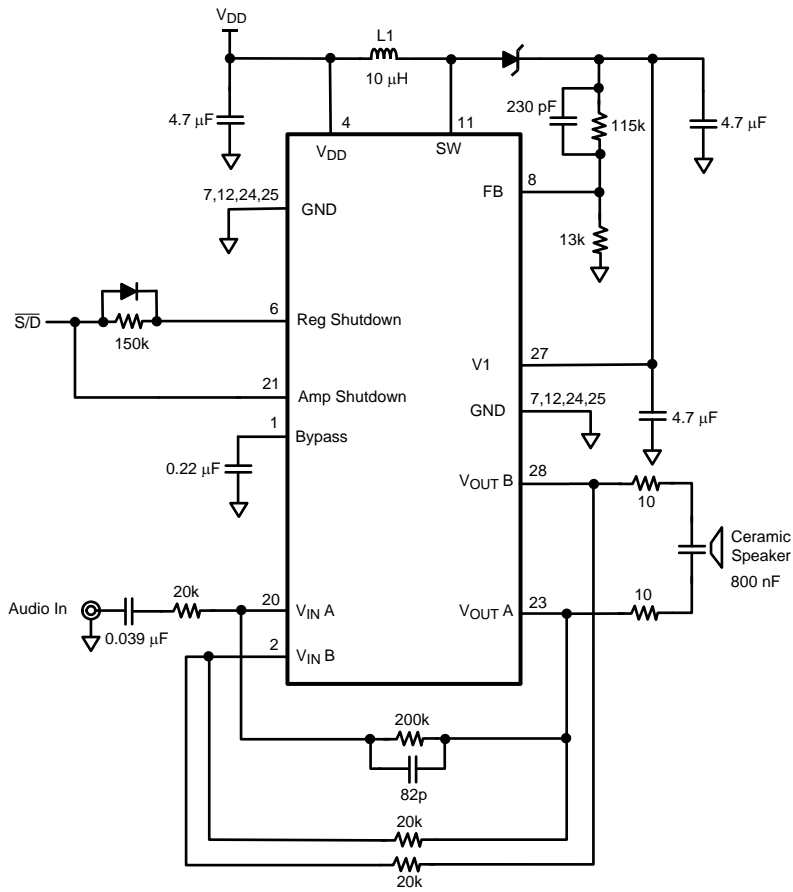

Figure 2. Typical Audio Amplifier Application Circuit
- (1) All voltages are measured with respect to the GND pin, unless otherwise specified.
- (2) Absolute Maximum Ratings indicate limits beyond which damage to the device may occur. Operating Ratings indicate conditions for which the device is functional, but do not ensure specific performance limits. Electrical Characteristics state DC and AC electrical specifications under particular test conditions which ensure specific performance limits. This assumes that the device is within the Operating Ratings. Specifications are not ensured for parameters where no limit is given, however, the typical value is a good indication of device performance.
- (3) If Military/Aerospace specified devices are required, please contact the Texas Instruments Sales Office/ Distributors for availability and specifications.
- (4) The maximum power dissipation must be derated at elevated temperatures and is dictated by T_{JMAX} , θ_{JA} , and the ambient temperature, T_A . The maximum allowable power dissipation is $P_{DMAX} = (T_{JMAX} - T_A) / \theta_{JA}$ or the given in Absolute Maximum Ratings, whichever is lower. For the LM4960 typical application (shown in Figure 2) with $V_{DD} = 12V$, $R_L = 4\Omega$ stereo operation the total power dissipation is 3.65W. $\theta_{JA} = 35^\circ\text{C/W}$.
- (5) Human body model, 100pF discharged through a 1.5k Ω resistor.
- (6) Machine Model, 220pF–240pF discharged through all pins.